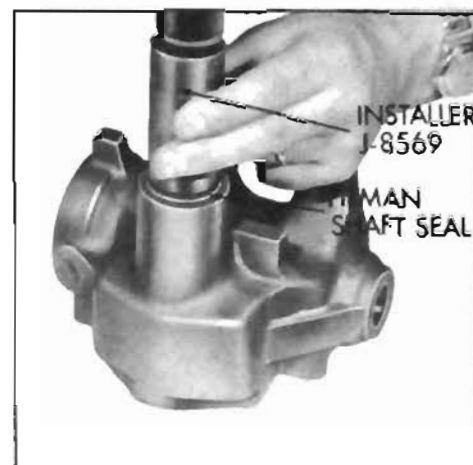

Figure 8-15—Installing Pitman Shaft Seal
8. To protect pitman shaft seal from damage, cover shaft splines with masking tape. Slide new seal into place and seat against shoulder in housing using Installer J-8569. See Figure 8-15.